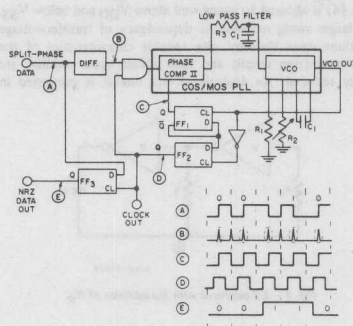

Fig. 14- Split-phase data synchronization and decoding.
Fig. 14 shows another application of COS/MOS PLL, split-phase data synchronization and decoding. A split-phase data signal consists of a series of binary digits that occur at a periodic rate, as shown in waveform A in Fig. 14. The weight of each bit, 0 or 1, is random, but the duration of each bit, and therefore the periodic bit-rate, is essentially constant. To detect and process the incoming signal, it is necessary to have a clock that is synchronous with the data-bit rate. This clock signal must be derived from the incoming data signal. Phase-lock techniques can be utilized to recover the clock and the data. Timing information is contained in the data transitions, which can be positive or negative in direction, but both polarities have the same meaning for timing recovery. The phase of the signal determines the binary bit weight. A binary 0 or 1 is a positive or negative transition, respectively, during a bit interval in split-phase data signals.
As shown in Fig. 14, the split-phase data-input (A) is first differentiated to mark the locations of the data transitions. The differentiated signal, (B), which is twice the bit rate, is gated into the COS/MOS PLL. Phase-comparator II in the PLL is used because of its insensitivity to duty cycle on both the signal and comparator inputs. The VCO output is fed